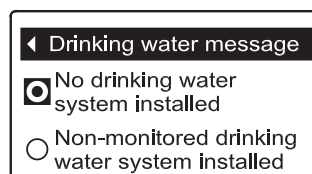

FIG. 112
4. Press the SELECT (○) button to display the Drinking water message menu (See Figure 112).